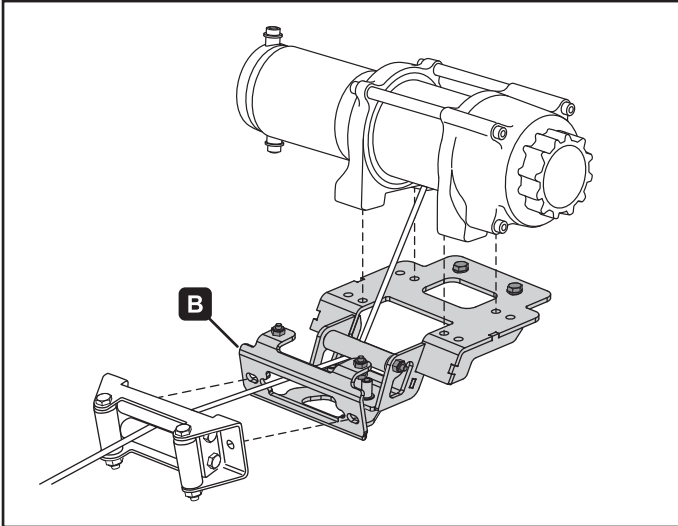

Figure 6.
6. Install your fairlead to fairlead bracket (B) with the hardware included with the winch. See figure 6.
7. Install fairlead bracket (B) to the machine with bolts (G) and washers (I, J). Route your winch line under the roller and through the fairlead during install as shown in figures 6 and 7.